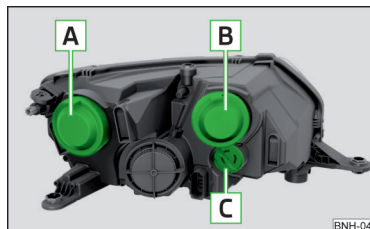

Fig. 153
**Bulb arrangement** » Fig. 153
- Remove the protective cap **A** » Fig. 153 on page 172.
- Fit the protective cap **A** » Fig. 153 on page 172.
- Remove the protective cap **B** » Fig. 153 on page 172.
- Fit protective cap **B** » Fig. 153 on page 172 Insert.